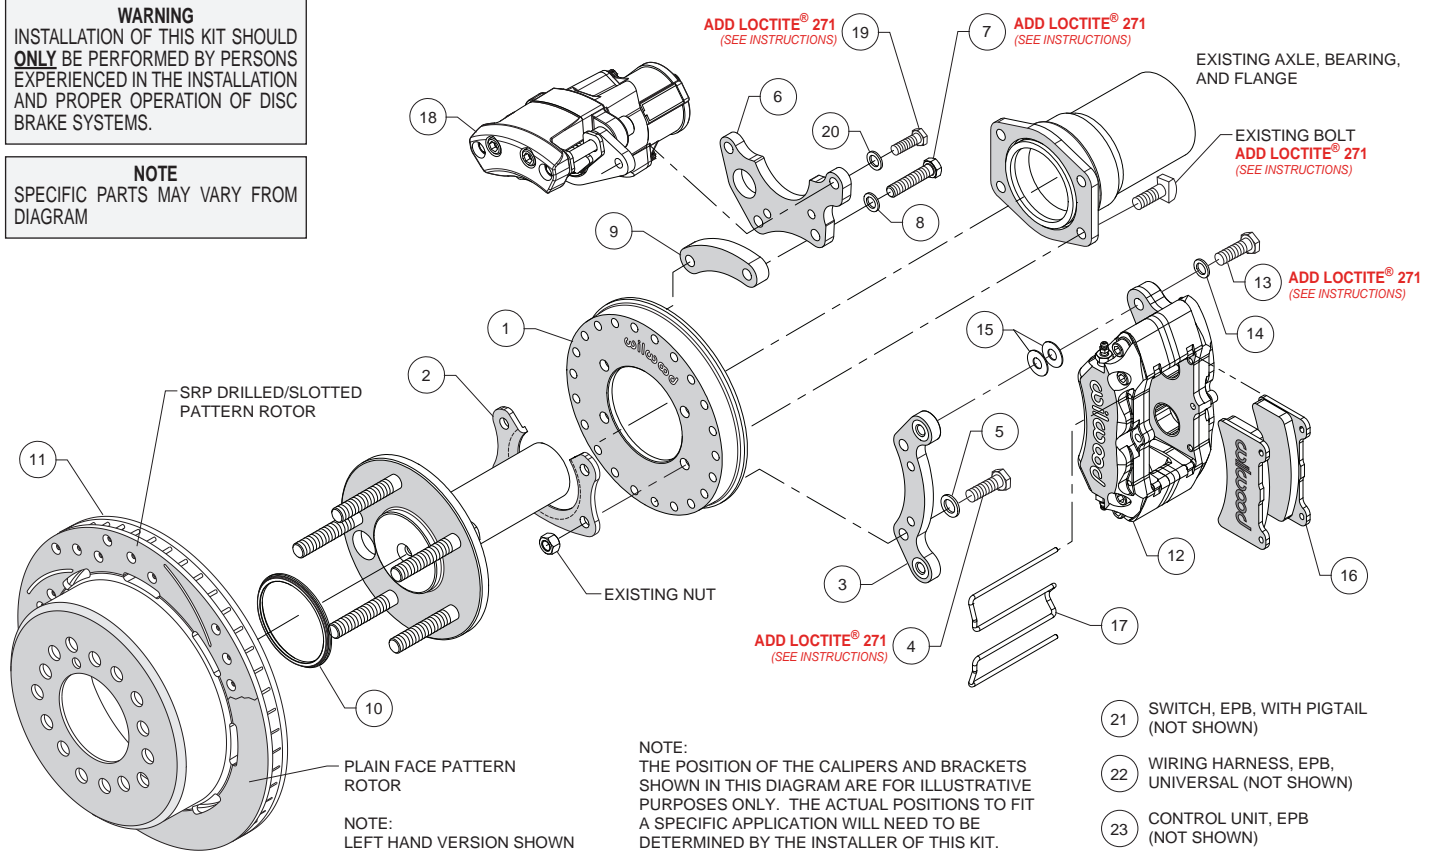
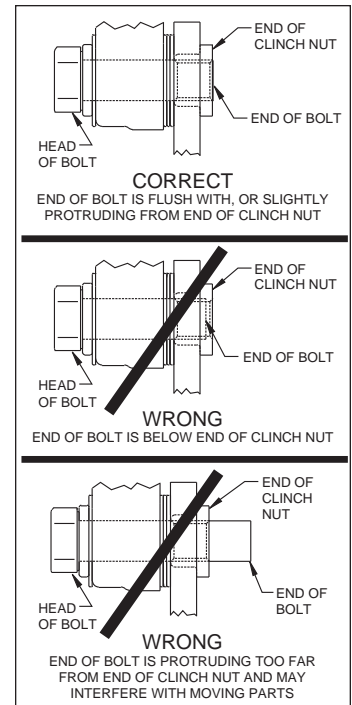

Figure 1. Typical Installation Configuration
Figure 5. Clinch Nut Engagement Diagram
(numbers in parenthesis refer to the parts list, and Figure 1 on the preceding pages):
CAUTION: All mounting bolts must fully engage clinch nuts. Be sure to check that all bolts are either flush or protruding through flanged side of clinch nut after shimming, Figure 5.
- Orient the backing plate (1) as shown in Figure 1 and Photo 1, and slide it onto the axle housing flange. Ensure the backing plate fits flush against the axle housing flange. Reinstall the axle into the axle housing.
- Install the bearing retainer (2) with the opening pointing upward and the lip facing inward (toward the bearing), as shown in Figures 1 and 4, and Photo 2. Secure retainer and backing plate to the axle housing flange using the Original Equipment Manufacturer (OEM) bolts and nuts, Figure 1 and Photo 3. Apply red *Loctite*® 271 to the OEM bolt threads and torque to OEM specifications.
- Start by determining the best location for the service caliper (12). This caliper is usually mounted in the 3:00 or 9:00 o'clock position, but may be rotated up or down approximately 45 degrees and still allow for proper bleeding, Photo 4. Orient the service caliper bracket (3) as shown in Figure 1 and Photo 5, and install to the backing plate (1) in the desired location using bolts (4) and washers (5). Temporarily tighten bolts. Next, mount the service caliper to the bracket using bolts (13) and washers (14). Temporarily tighten bolts. Check that the caliper (including inlet fitting and hose) has sufficient clearance to all surrounding components through the full suspension travel. Relocate the caliper/bracket on the backing plate as needed to ensure proper clearance is achieved.
- Determine the best location for the EPB caliper (18). **NOTE:** *The EPB caliper motor extends farther inboard than the service caliper and therefore needs additional consideration when determining a mounting location with sufficient clearance.* In the example application shown in Photo 6, the EPB caliper has sufficient inboard clearance to the leaf spring. However, if the EPB caliper were mounted closer to the 12:00 o'clock position, the inner body of the vehicle would hit the caliper during full compression of the suspension.
- Orient the EPB caliper bracket (6) as shown in Figure 1 and Photo 7, and install to the backing plate (1) in the desired location using bolts (7), washers (8), and spacer (9). Temporarily tighten bolts. **NOTE:** The EPB bracket is reversible. In one direction the bracket will position the EPB caliper closer to the service caliper, and vice versa if reversing the bracket. Next, mount the EPB caliper (18) to the bracket using bolts (19) and washers (20). Temporarily tighten bolts. **NOTE:** EPB calipers are Left and Right handed, however they can be used on either side of the vehicle to best suit your specific application. Check that the EPB caliper (including wiring harness connector) has sufficient clearance to all surrounding components through the full suspension travel. Relocate the EPB caliper/bracket on the backing plate as needed to ensure proper clearance is achieved.
- Once the caliper positions have been determined, remove both the service (12) and EPB (18) calipers, leaving both brackets in place on the backing plate. For both brackets, remove the bolts one at a time, apply red *Loctite*® 271 to the threads, and torque to 35 ft-lb.
- Slide the rotor registration adapter (10) onto the register on the axle flange with the smaller O.D. facing toward the rotor/hat (11), Photo 8. Align the correct hole pattern in the rotor/hat with the stud pattern on the axle flange and slide into place, Figure 1. **NOTE:** The rotor/hat must fit flush against the axle flange or excessive rotor run out may result. Install three lug nuts (finger tight) to keep the rotor/hat assembly in place while continuing with the installation. **NOTE:** Some OEM and after market axles come with stud sizes larger than 0.50" diameter. Verify stud size and have a qualified machine shop drill the bolt circle of the hat/rotor to the correct stud size, if necessary.
- NOTE:** Please reference the caution statement at the beginning of the assembly instructions. Remount the service caliper (12) onto the caliper mounting bracket (3) using bolts (13) and washers (14), as shown in Figure 1. Initially place two .035" thick shims (15) on each bolt between the caliper and the bracket, Photo 9. Temporarily tighten the mounting bolts and view the rotor (11) through the top opening of the caliper. The rotor should be centered in the caliper, Photo 10. If not, adjust by adding or subtracting shims (15) between the bracket (3) and the caliper (12). Always use the same amount of shims on each of the two mounting bolts. **NOTE:** The end of each bolt must be flush with or slightly protruding from the head of the clinch nut, as shown in Figure 5. If necessary place spare shims (15) between washer (14) and caliper mounting ear to achieve the proper clinch nut engagement. Once the caliper alignment and clinch nut engagement are correct, remove the bolts one at a time, apply red *Loctite*® 271 to bolt threads, and torque to 40 ft-lb.
- Mount the EPB caliper (18) onto the caliper mounting bracket (6) using bolts (19) and washers (20), Figure 1. Apply red *Loctite*® 271 to bolt threads, and torque to 30 ft-lb.
- NOTE:** *The service caliper (12) in this brake kit utilizes a 1/8-27 NPT pipe thread inlet. OEM rubber brake hoses generally cannot be adapted to Wilwood calipers. The preferred method is to use steel adapter fittings at the caliper, either straight, 45 or 90 degree and enough steel braided line to allow for full suspension travel. Carefully route hoses to prevent contact with moving suspension, brake or wheel components. NOTE: Wilwood hose kits are designed for use in many different vehicle applications and it is the installer's responsibility to properly route and ensure adequate clearance and retention for brake hose components. Wilwood offers universal brake flex line hose kits, domestic (3/8-24 IF) chassis fittings, order:*